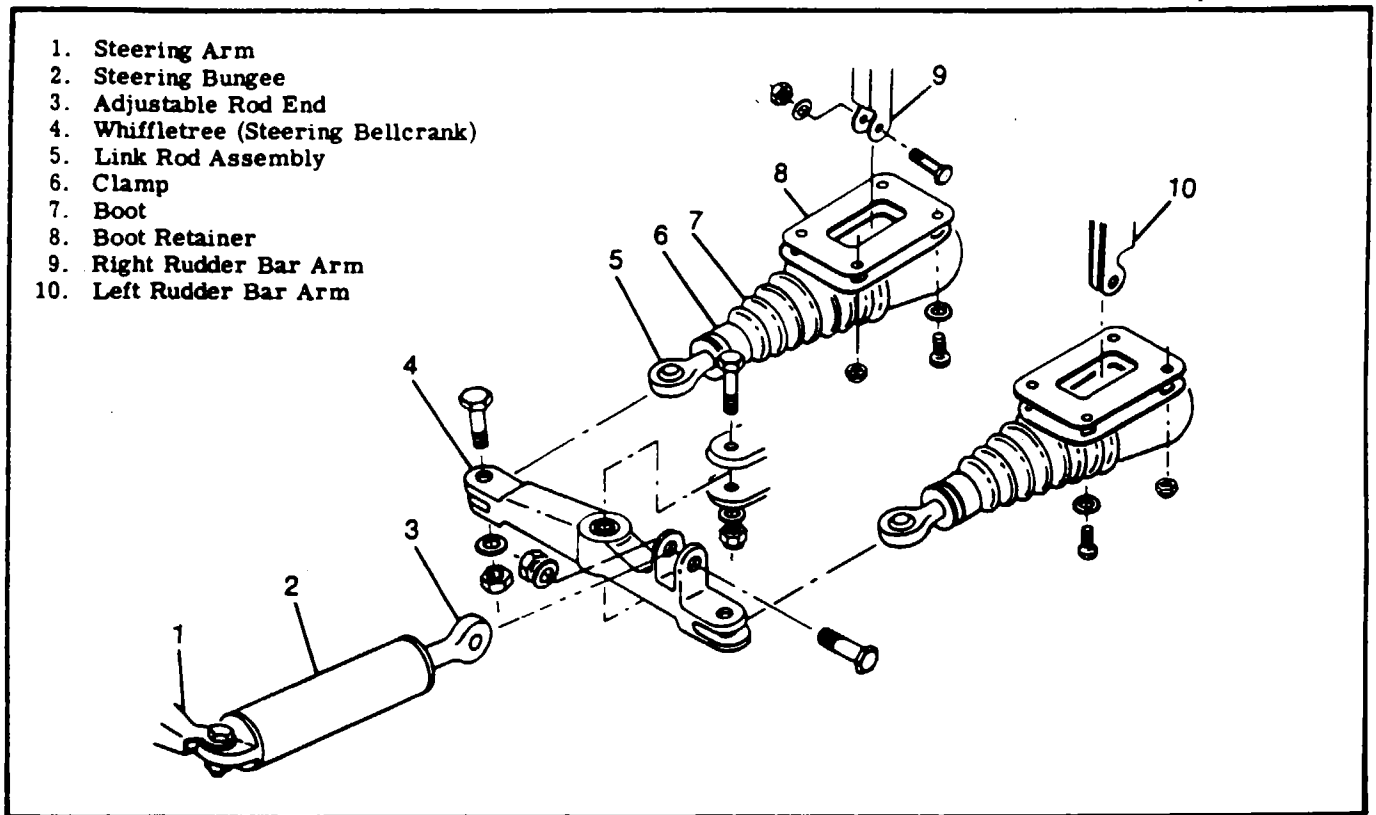

Figure 10-3. Nose Gear Steering Installation
- g. Disconnect rudder trim bungee from rudder bar arm (16).
- h. (Refer to figure 10-3.) Disconnect whiffletree link rod assemblies (5) at rudder bar arms (9 and 10).
- e. (Refer to figure 10-3.) Disconnect steering bungee adjustable rod end (3) from whiffletree (4).